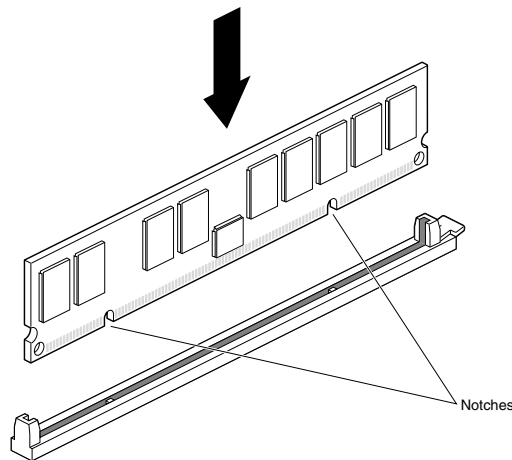

Figure 8-22 CT/i (Octane) Host DIMM Installation
- 1.) Insert the DIMM into the socket, gently but firmly. You hear a click as it is seated, and the latch on the end of the socket moves up. DIMMs are notched on the bottom so that they cannot be inserted incorrectly. See Figure 8-22 .